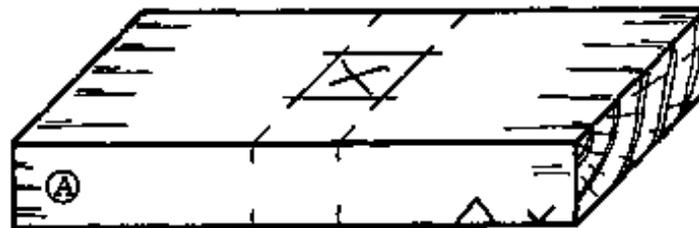

Fig. 5
- Use the same setting to mark both faces of piece A and use a try square and (already smoothed) piece B to mark the remaining two lines for the width of the mortise (Fig. 5). Mark the waste with a small cross.